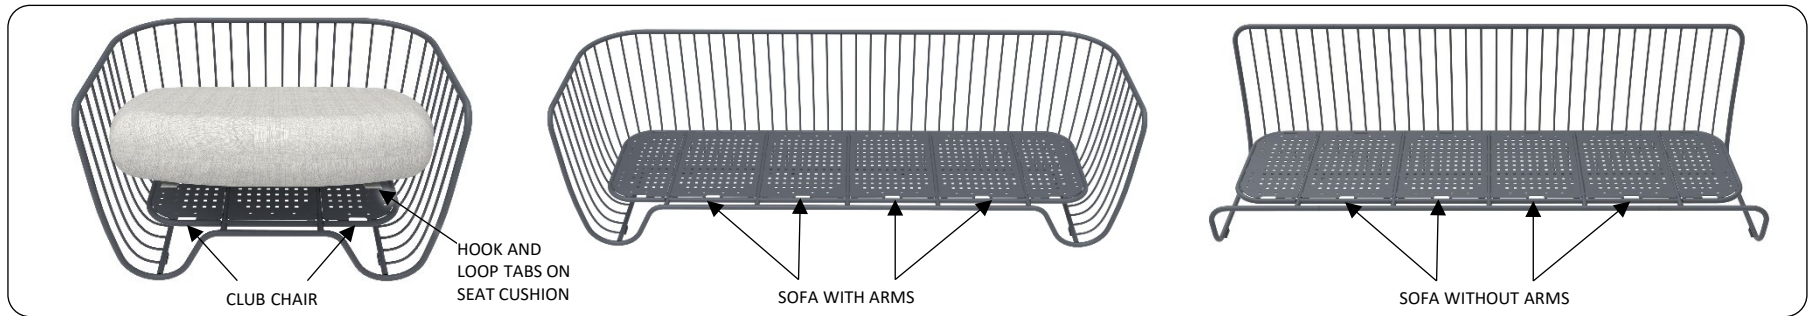

FIG 1 – SEAT CUSHION ATTACHMENT POINTS
2. Attach seat cushions to frame using hook and loop connections, see Fig. 1.